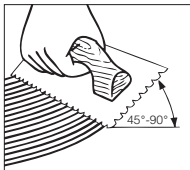

Figure 10
- Hold trowel at a minimum 45° angle (Figure 10) firmly against the subfloor to obtain a 50–60 ft.2 (4–5.5 m2) per gallon spread rate. The trowel will leave ridges of adhesive and very little adhesive between the ridges. This will allow you to still see the chalk lines between the ridges and provide the recommended spread rate.